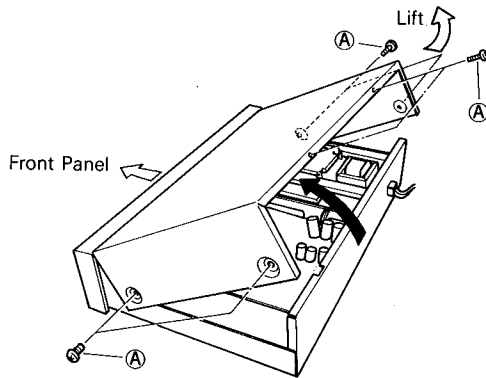

Fig. 1
### 1. Removal of Cabinet Top (Fig. 1)
Remove screws (A), then lift and remove the Cabinet Top and shown in Fig. 1.